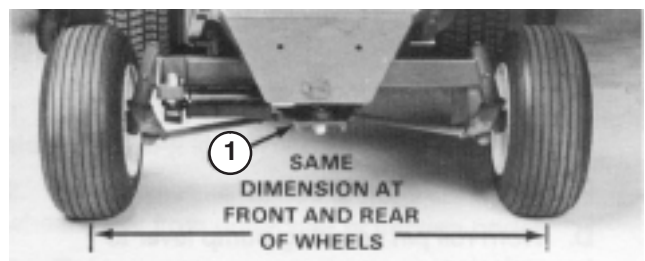

Figure 42
2. Loosen the jam nuts on both tie rods. Adjust both tie rods until center-to-center distance at front and back of rear wheels is the same (Fig. 42).